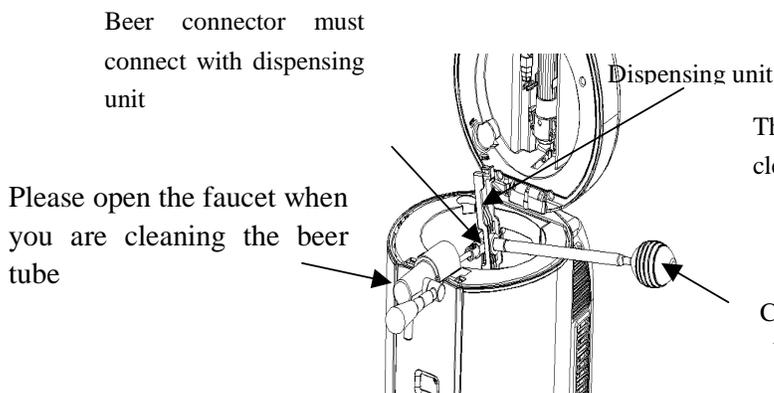
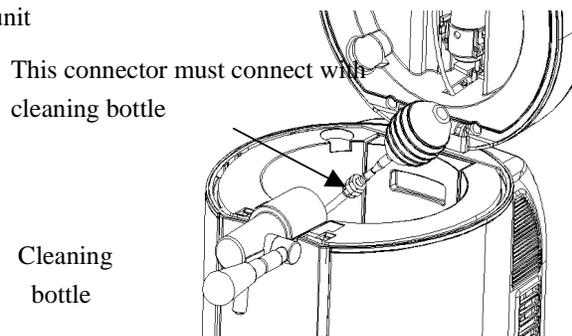

Figure 29
Figure 30
3. Clean the beer tap mechanism as figure 30. Note: Please open the tap when cleaning. (Show as figure 29)